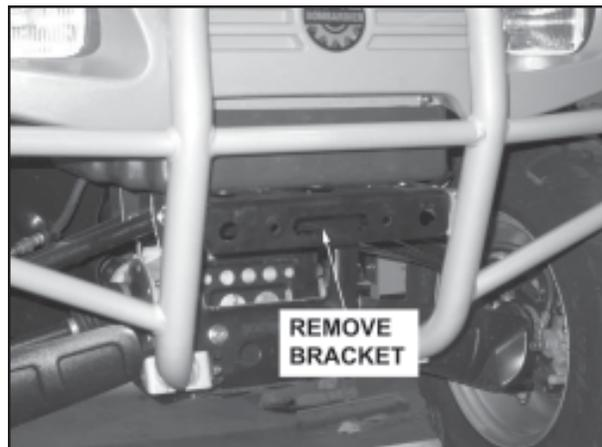

Figure 3
3. Remove the existing bracket as see in **Figure 3**. This bracket will be replaced with the new winch plate supplied in this kit.
6. Place the new winch mounting kit, with the 3.0ci winch, into the original position as the existing bracket on the ATV, **Figure 3** and **Figure 5**. Tighten all upper and lower frame bolts at this time.